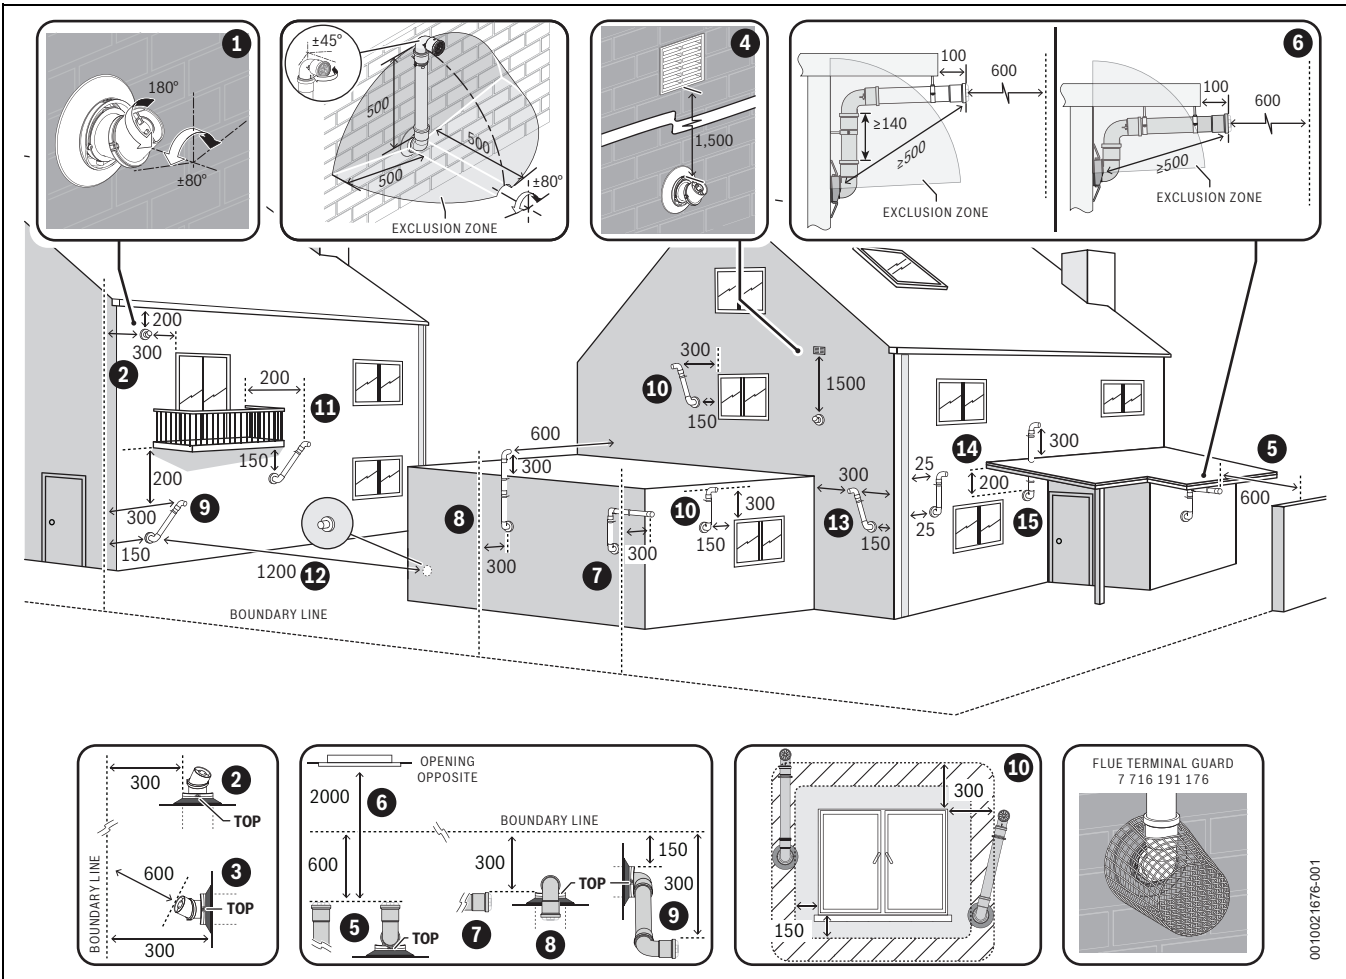

Fig. 34 Plume re-direct and plume management terminal positions
- ▶ Refer to “Horizontal flue terminal positions” for all concentric flue terminal positions unless the flue position is specified in figure 34 “Plume re-direct and plume management terminal positions”.
### Key to figure 34